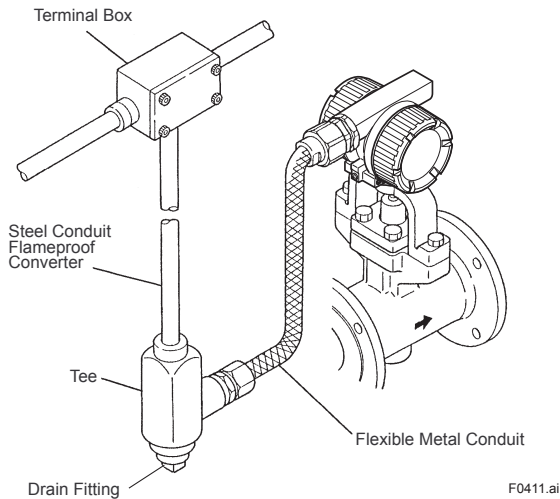
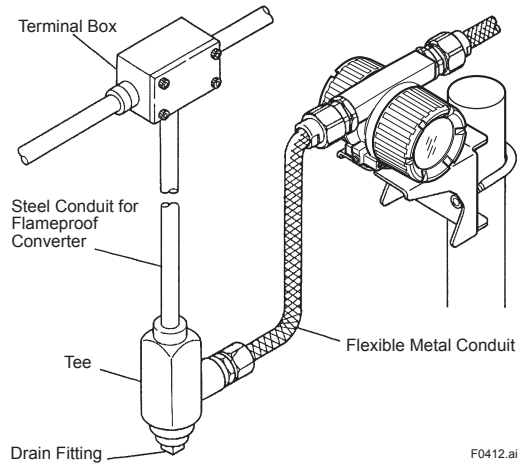

Figure 4.9 Example of Wiring (Integral Type and Remote Type Detector (DY-N))
Figure 4.10 Example of Wiring (DYA Remote Type Converter)
- (3) It recommends using an flexible metal conduit and a duct for waterproofing or external protection of an electric wire. Read Figure 4.9 and Figure 4.10.
- (4) The flameproof packing adapter (option code: /G11 or /G12) should be used for the external wiring of TIIS Flameproof. Read "INSTALLATION AND OPERATING PRECAUTIONS FOR TIIS FLAMEPROOF EQUIPMENT."